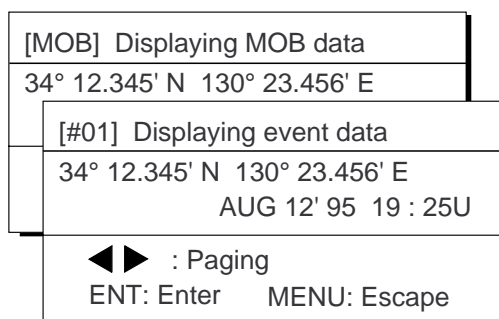

Figure 5-9
- 2) Press [2] to select MOB/Event Position. The display shown in Figure 5-9 appears.